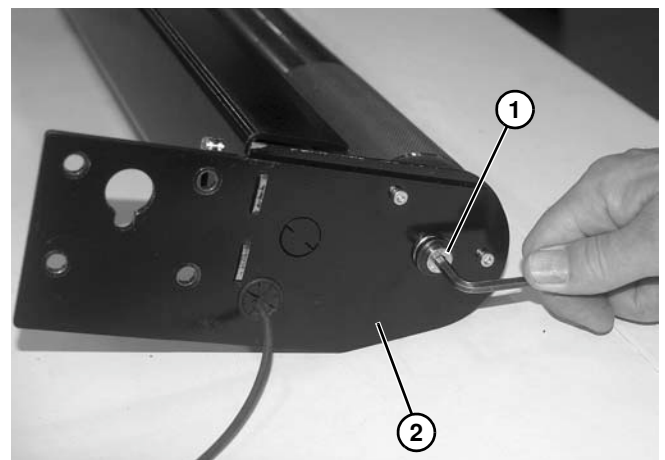

Figure 193
9. On motor mounted end, remove screw (**Figure 193, item 1**) securing cover plate (**Figure 193, item 2**) on spindle assembly.